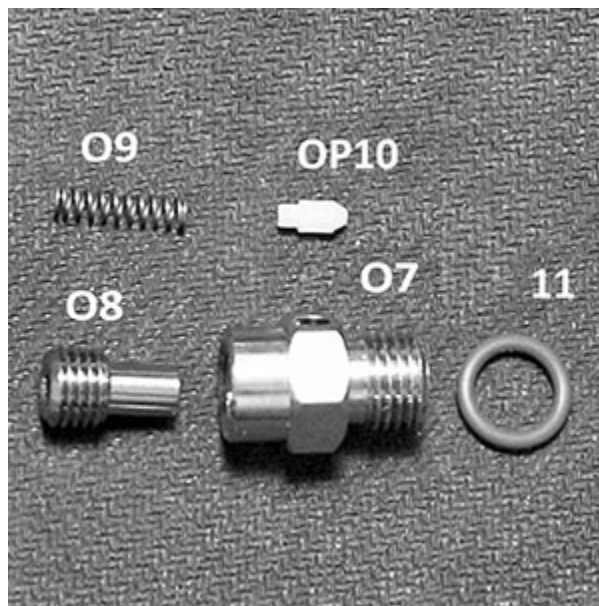

Fig. 17
11. **This step is optional. Ideally, when the regulator is serviced, the OPV should be replaced.** However, if the OPV is not to be replaced, unscrew the Spring Holder (O8) from the OPV Body (O7) using a 3mm hex. Remove the O-ring (11) and take the Spring (O9) and Bullet (OP10) out of the Body. Carefully separate the Bullet from the Spring. The Bullet and O-ring are discarded and replaced. This AS-011x70° O-ring is not included in the Service Parts Kit - Fig. 17.